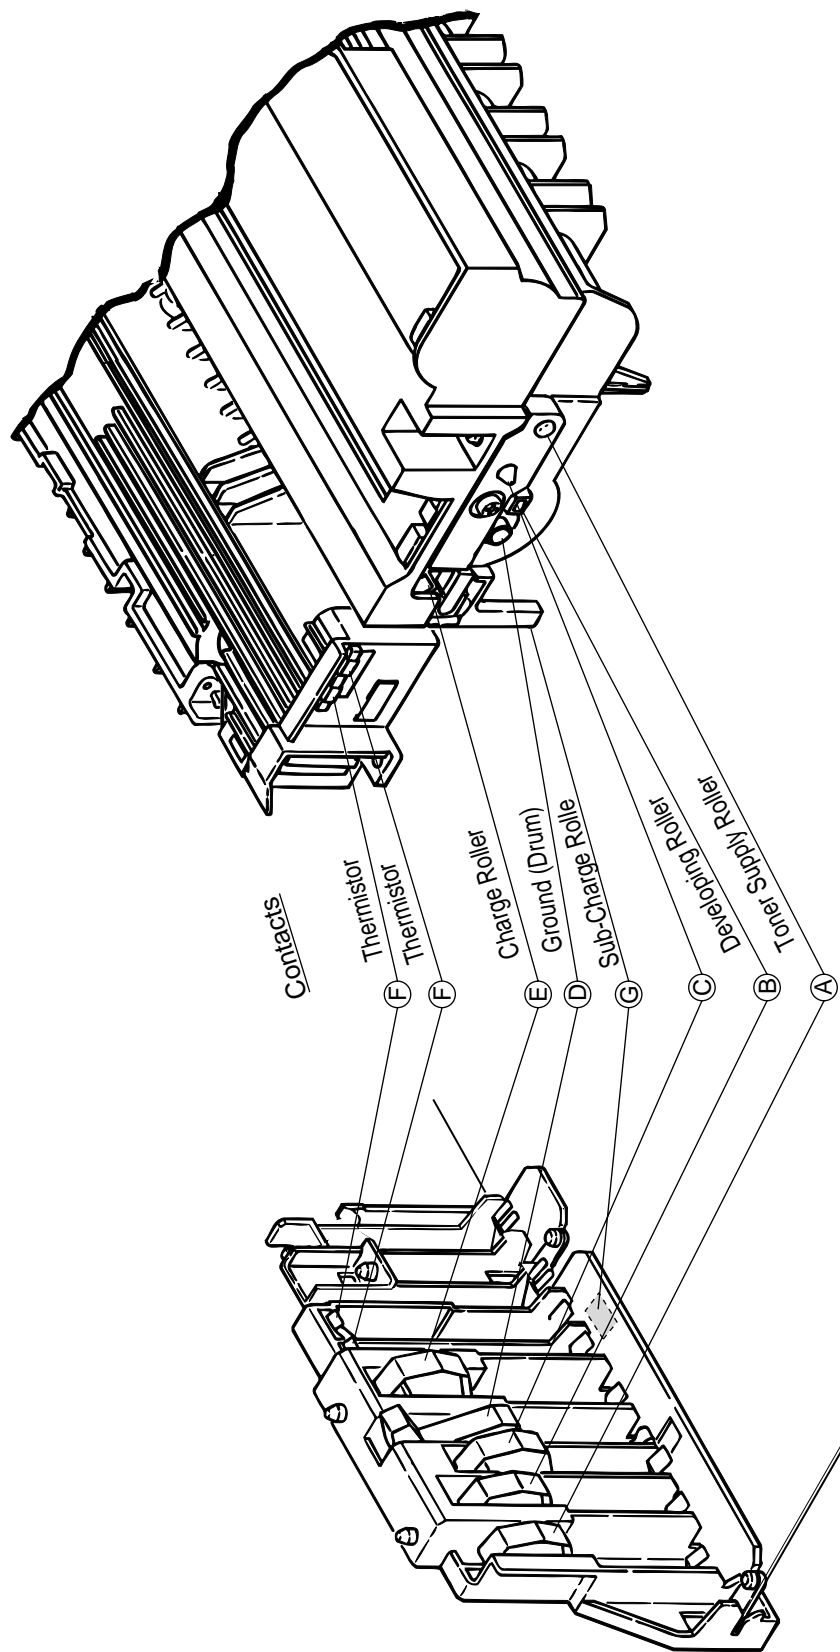

Figure 6-4
- Yes Check the heat contacts of the fusing unit and the contact assembly for poor contact (see Figure 6-4 contact ㉔).
▼ Yes Are the contact of the developing roller and the contact of the toner supply roller of the image drum cartridge in contact with the contact assembly properly (see Figure 6-4 (A) and (B))?